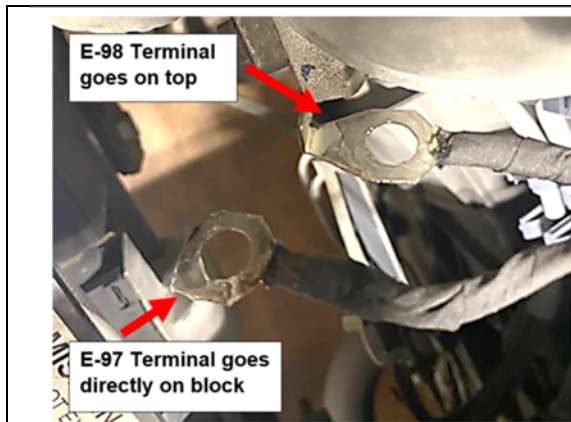

Figure 8
10. Install and hand tighten the bolt for the E-97 and E-98 ground terminals on the engine block mounting location. Ensure that the E-97 terminal is installed directly on the block and that the E-98 ground terminal (has the anti-rotation tab) is installed on top of the E-97 ground terminal. (See Figures 8 and 9.)